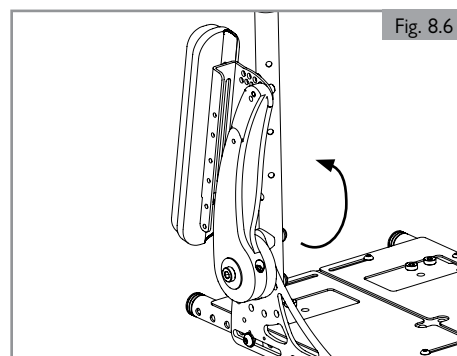

Fig. 8.6
8.6 Accoudoir escamotable (Fig. 8.6)